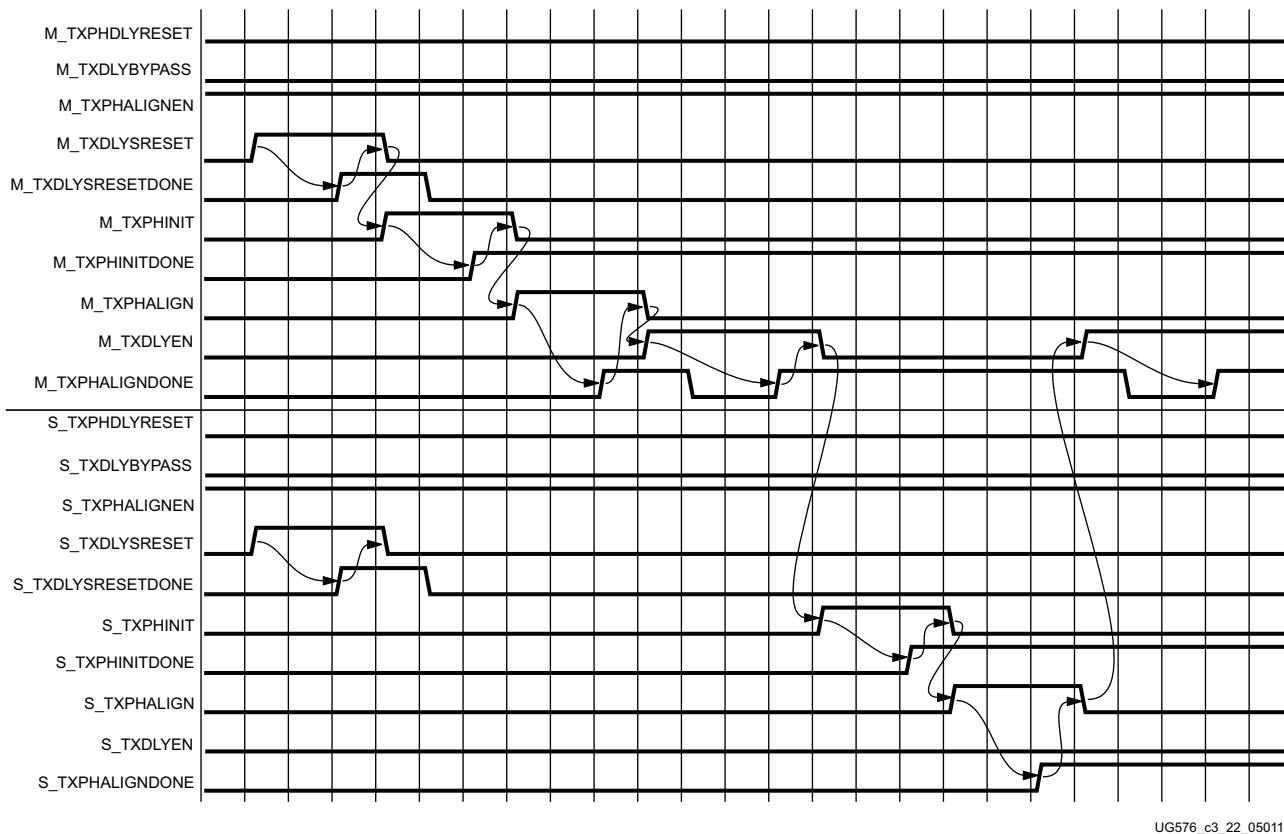

Figure 3-22: TX Phase and Delay Alignment in Manual Mode
Figure 3-22 shows the required steps to perform manual TX phase and delay alignment.
Notes relevant to Figure 3-22:
1. The sequence of events shown in Figure 3-22 is not drawn to scale.